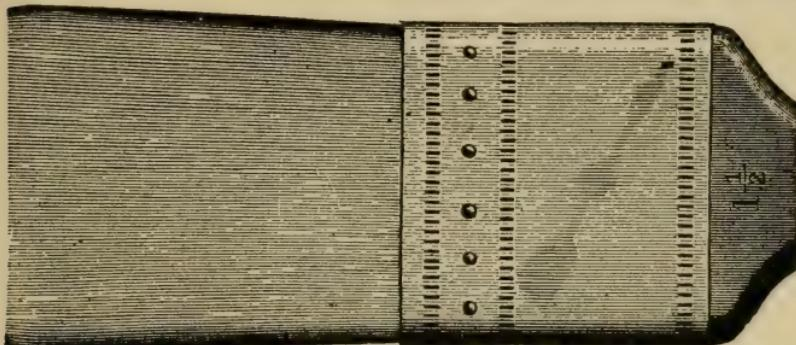

Fig. 31—Badger Hair Flowing.
metal on a flat wood head or a continuation of the metal binder into a head with wooden handle attached. They are made single and double thick, ranging in sizes by  $\frac{1}{2}$  inch gradations from  $\frac{1}{2}$  inch to four inches wide. Fig. 31 shows both the single and double shape.
*26. a.* *Ox hair flowing varnish brushes* are very highly prized by many wood finishers. They are made single and double and come in sizes and shapes same as Fig. 31, which see.
flowing varnish brush which is highly prized by coach painters and wood finishers. They are made up in same sizes and shape as shown in Fig. 31, which see.
by some wood finishers. See Fig. 31 for shape and sizes.
stiff by itself as a corrective. The wood finishing trade, especially the better class of furniture manufacturers, use it in great quantities. It is made up in same sizes and shape as shown in Fig. 31, which see.